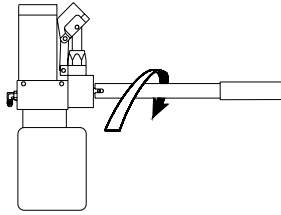

FIGURE 2-15: CLOCKWISE CLOSURES RELEASE
- 1) Refer to **Figure 2-15**. Verify that pump pressure release valve is closed (CW).